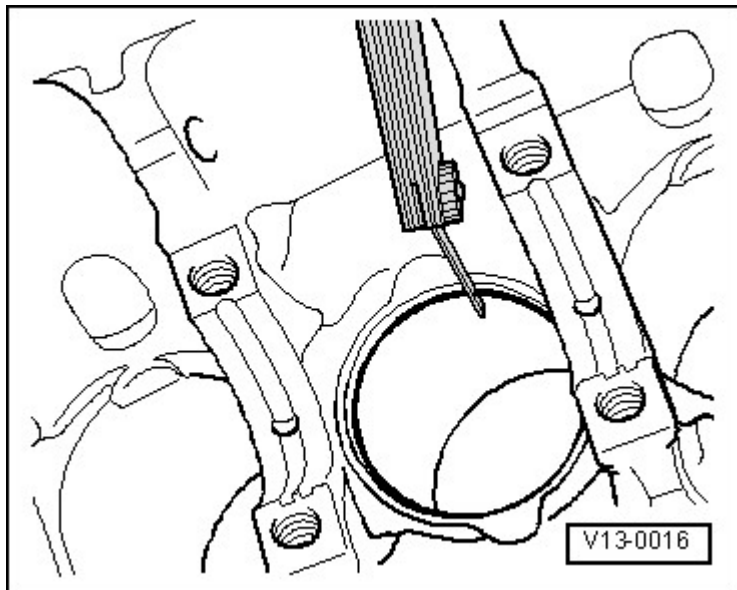

Fig. 15: Checking Piston Ring Gap
- Gap, measuring, refer to **Fig. 15**